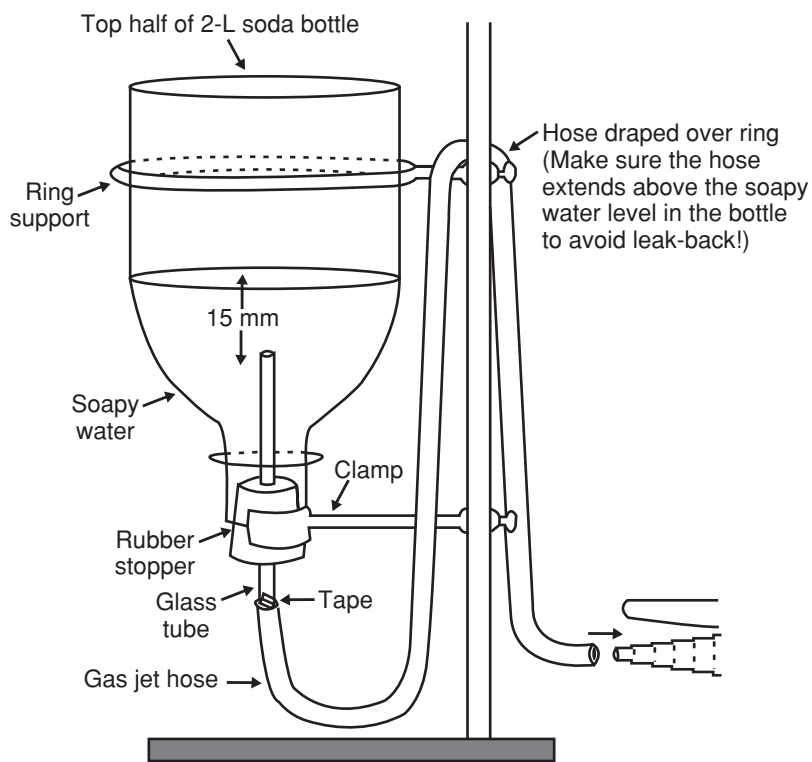

Figure 1.
4. Use the support stand, buret clamp, and large ring clamp to secure the funnel in a vertical position with the stoppered end down (see Figure 1 on page 2).
5. Run the hose up over the neck of the ring clamp (to avoid leakback) and then connect it to the gas jet (see Figure 1).
1. Pour 300 mL of the prepared 3% soap solution into the funnel. The top of the glass tubing should be submerged by about 1.5 cm (see Figure 1).